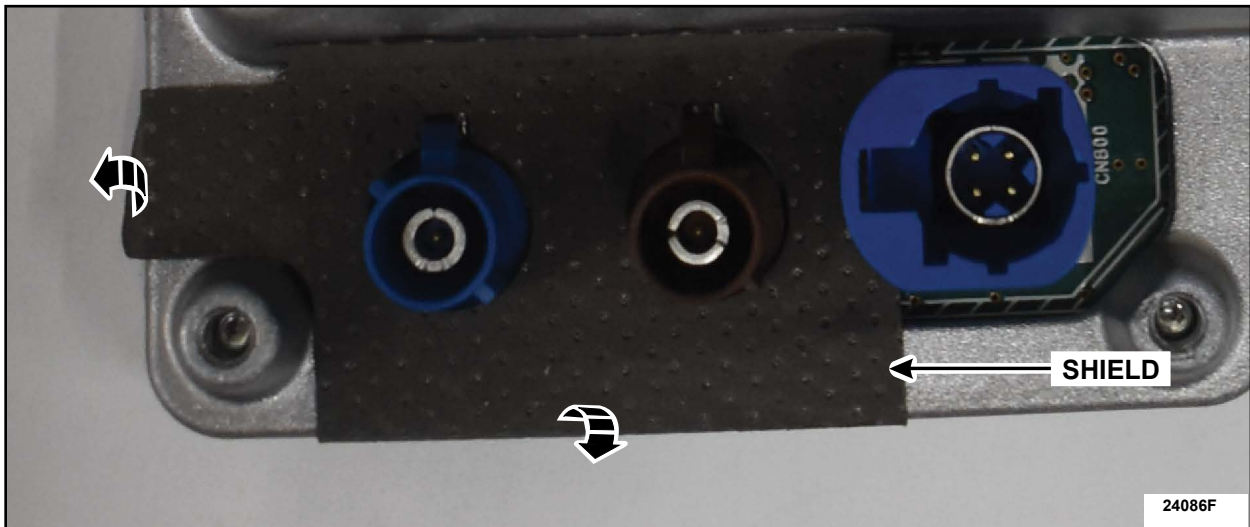

FIGURE 6
7. Fold over the two side tabs. See Figure 6.